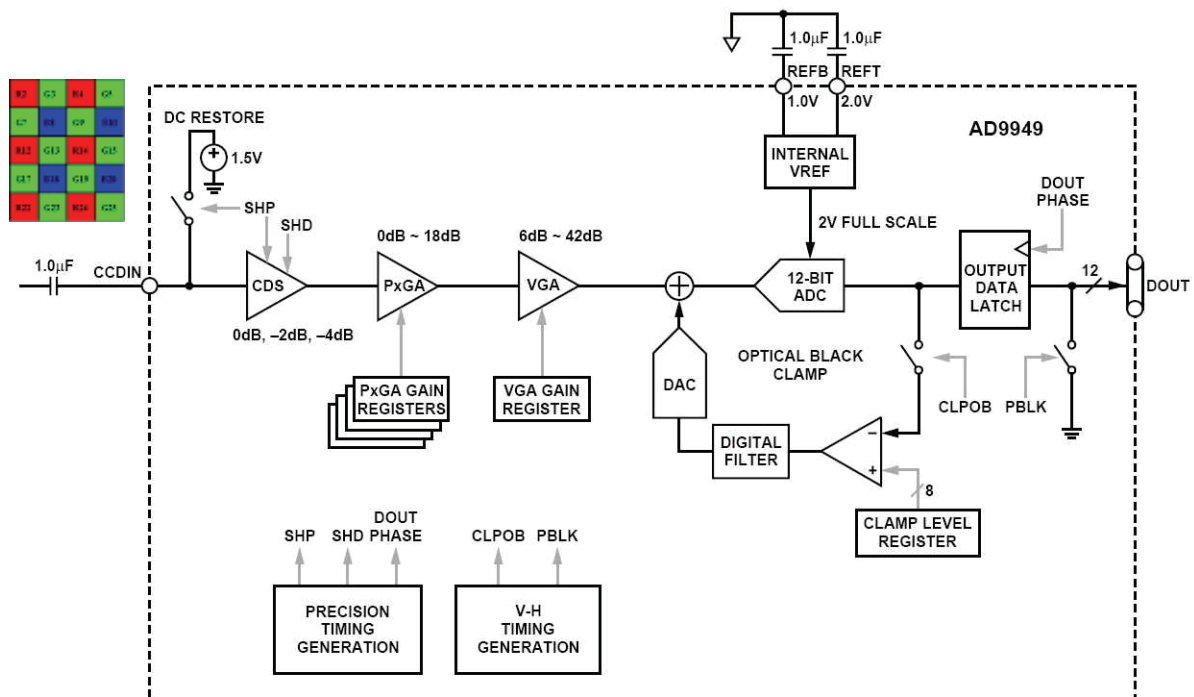

Figure 63: Block diagram of AFE (Source: Analog Devices)
- Figure 63: Block diagram of AFE \(Source: Analog Devices\) on page 115